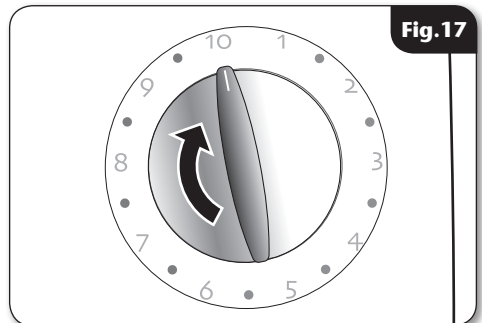

Fig.17
- Select the minimum flow position (fig.17).